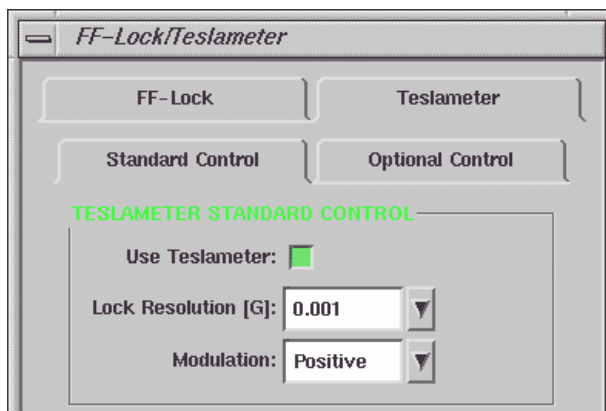

Figure 12-26 The Standard Control folder.
3. **Activate the teslameter.** Click the Standard Control tab. Select the Lock Resolution from the drop-down list. We recommend that you start with low resolution *e.g.* 0.1 G and increase the resolution after the teslameter finds the field. Click the Use Teslameter button to activate it. The teslameter will start to search for the current field position. (See Figure 12-26.)